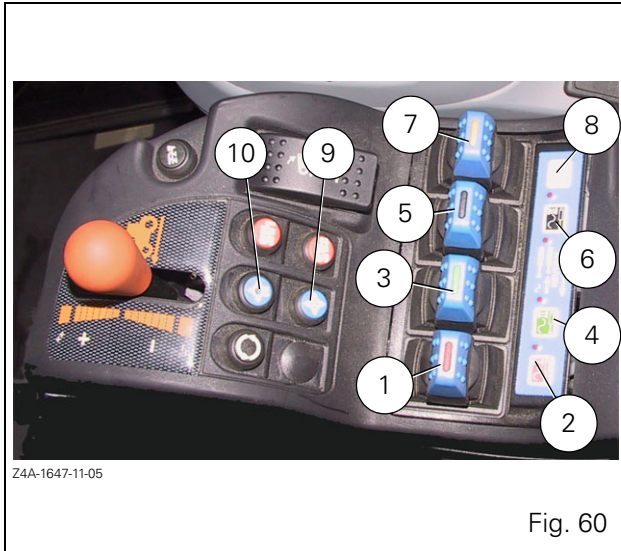

Fig. 60
#### Setting the flow rate (Versions without Datatronic 3) (Fig. 60)
If a stored flow rate must be changed or cancelled, operate the joystick then press the Memory key (9. Fig. 60) for 5 seconds to restore the maximum flow rate.
All the pre-recorded flow parameters can be reset simultaneously by pressing memory button (9. Fig. 60) for approximately 5 seconds when the Joystick is in the neutral position, the indicator light 4flashes during this time.